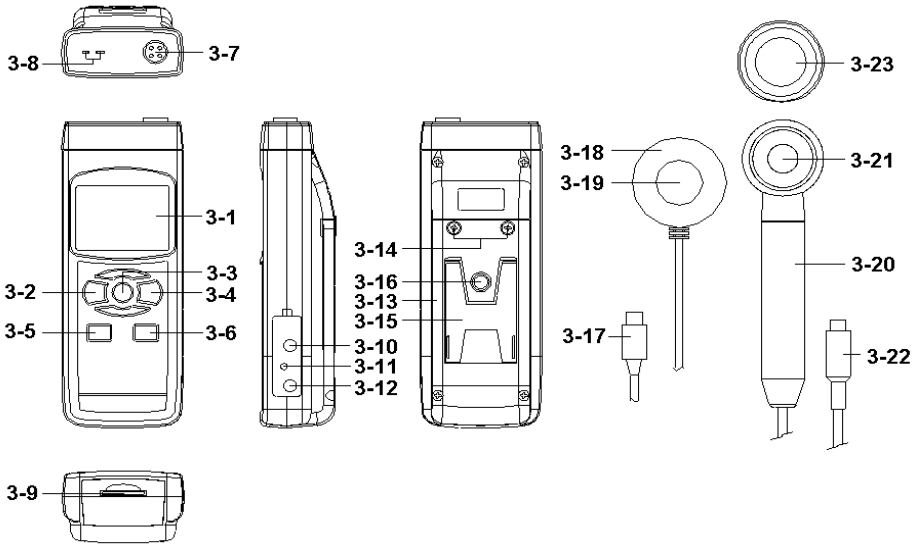

Fig. 1
1) Turn on the meter by pressing the " Power Button " ( 3-2, Fig. 1 ) momentarily.
*\* Pressing the " Power Button " ( 3-2, Fig. 1 ) continuously and > 2 seconds again will turn off the meter.*
Pressing the " Function Button " ( 3-3, Fig. 1 ) continuously ( not release the button ), the Display will show the following text in sequence :
Until the Display show the desired mode ( Function ), just release the " Function Button " ( 3-3, Fig. 1 ), the meter will execute this function with default.
- b. Install the " UVA Probe Plug " ( 3-22, Fig. 1 ) into the " Probe Input Socket " ( 3-7, Fig. 1 ).
- c. Power on the meter by pressing the " Power Button " ( 3-2, Fig. 1 ). The display will show the "  $\text{mW}/\text{cm}^2$  " unit. Now the meter is ready for making the UVA light measurement.
- d. Use the fingers to hold the " Sensor Handle " ( 3-20 ), face the " UVA Sensor " ( 3-21, Fig. 1 ) against to the measurement UVA light source directly. The display will show the UVA light measurement value.
***During the UVA measurement, if blank the UVA Sensor ( 3-21, Fig. 1 ) by " UVA Sensor Cover " ( 3-23 , Fig. 1 ), the Display not show zero value, press the " Zero Button, Logger Button " ( 3-6, Fig. 1 ) > 3 seconds, Display will show zero value. Upon completion, remove the sensor cover.***
- b. Install the " UVC Probe Plug " ( 3-17, Fig. 1 ) into the " Probe Input Socket " ( 3-7, Fig. 1 ).
- c. Power on the meter by pressing the " Power Button " ( 3-2, Fig. 1 ). The display will show the "  $\text{mW}/\text{cm}^2$  " unit. Now the meter is ready for making the UVC light measurement.
- d. Use the fingers to hold the " UVC Sensor body " ( 3-18 ), face the " UVC Sensor " ( 3-19, Fig. 1 ) against to the measurement UVC light source directly. The display will show the UVC light measurement value.
***During the UVC measurement, if blank the UVC Sensor ( 3-19, Fig. 1 ) , the Display not show zero value, press the " Zero Button, Logger Button " ( 3-6, Fig. 1 ) > 3 seconds, Display will show zero value. Upon completion, remove the sensor cover.***
- b. Not install the " Probe Plug " ( 3-17, 3-22 Fig. 1 ) into the " Probe Input Socket " ( 3-7, Fig. 1 ).
- c. Plug the Thermocouple Temp. Probe ( Type K Temp. probe pr Type J Temp. probe, optional ) into " Type K/J Probe Input Socket " ( 3-8, Fig. 1 )
During the measurement, press the " Hold Button " ( 3-3, Fig. 1 ) once will hold the measured value & the LCD will display a " HOLD " symbol.
- 1) The data record function records the maximum and minimum readings. Press the " REC Button " ( 3-4, Fig. 1 ) once to start the Data Record function and there will be a " REC. " symbol on the display.
- a) Press the " REC Button " ( 3-4, Fig. 1 ) once, the " REC. MAX. " symbol along with the maximum value will appear on the display.
If intend to delete the maximum value, just press the " Hold Button " ( 3-3, Fig. 1 ) once, then the display will show the " REC. " symbol only & execute the memory function continuously.
- b) Press the " REC Button " ( 3-4, Fig. 1 ) again, the " REC. MIN. " symbol along with the minimum value will appear on the display.
If intend to delete the minimum value, just press the " Hold Button " ( 3-3, Fig. 1 ) once, then the display will show the " REC. " symbol only & execute the memory function continuously.
After power ON, the " LCD Backlight " will light automatically. During the measurement, press the " Backlight Button " ( 3-2, Fig. 1 ) once will turn OFF the " LCD Backlight ".
Prepare a " SD memory card " ( 1 G to 16 G, optional ), insert the SD card into the " SD card socket " ( 3-9, Fig. 1). The front panel of the SD card should face against the the down case.
Press the " REC Button ( 3-4, Fig. 1 ) once , the LCD will show the text " REC ", then press the " Logger Button " ( 3-6, Fig. 1 ), the " REC " will flashing, at the same time the measuring data along the time information will be saved into the memory circuit.
During execute the Datalogger function , if press the " Logger Button " ( 3-6, Fig. 1 ) once will pause the Datalogger function ( stop to save the measuring data into the memory circuit temporarily ). In the same time the text of " REC " will stop flashing.
*If press the " Logger Button " ( 3-6, Fig. 1 ) once again will execute the Datalogger again, the text of " REC " will flashing .*
During pause the Datalogger, press the " REC Button " ( 3-4, Fig. 1 ) continuously at least two seconds, the " REC " indication will be disappeared and finish the Datalogger.